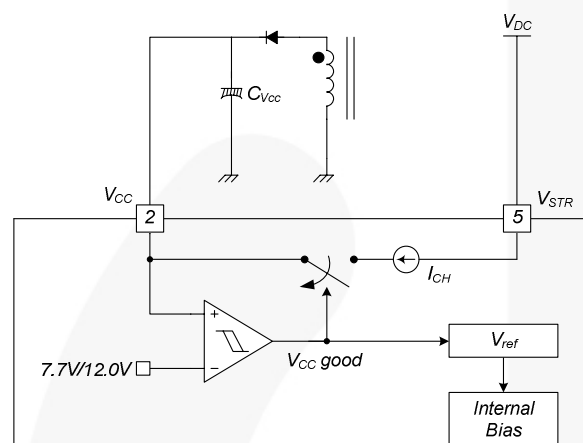

Figure 17. Startup Block
1. Startup: At startup, an internal high-voltage current source supplies the internal bias and charges the external capacitor (C_{VCC}) connected to the V_{CC} pin, as illustrated in Figure 17. When V_{CC} reaches 12V, the FSGM300N begins switching and the internal high-voltage current source is disabled. The FSGM300N continues normal switching operation and the power is supplied from the auxiliary transformer winding unless V_{CC} goes below the stop voltage of 7.7V.